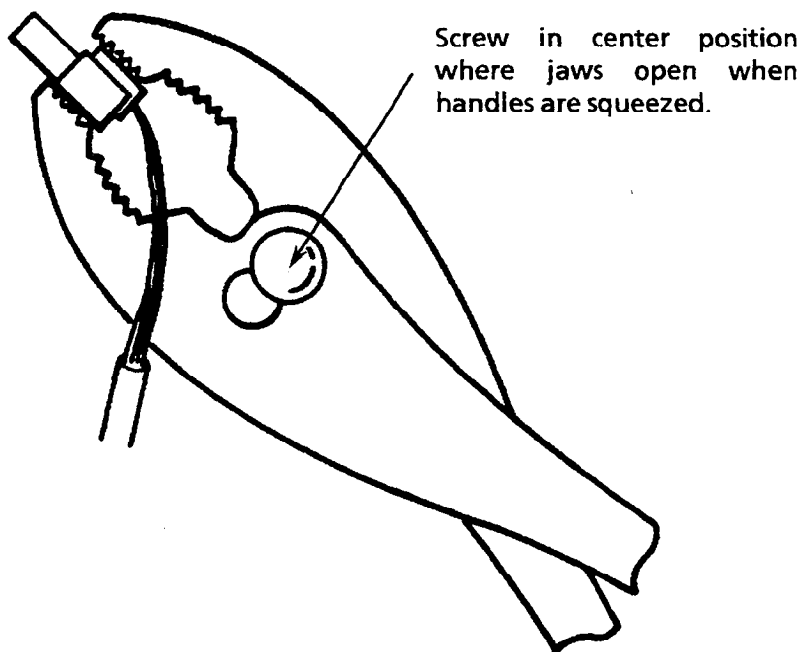

Figure 2-70 Positioning the Screw of the Pliers
**Note:** If sufficient pressure cannot be applied when the screw of the pliers is in the center position, change the position of the screw that allows the jaws of the pliers to close. Be careful when squeezing the hands of the pliers; excessive pressure could cause damage to the connector. Refer to Figure 2-70 - Positioning the Screw of the Pliers.